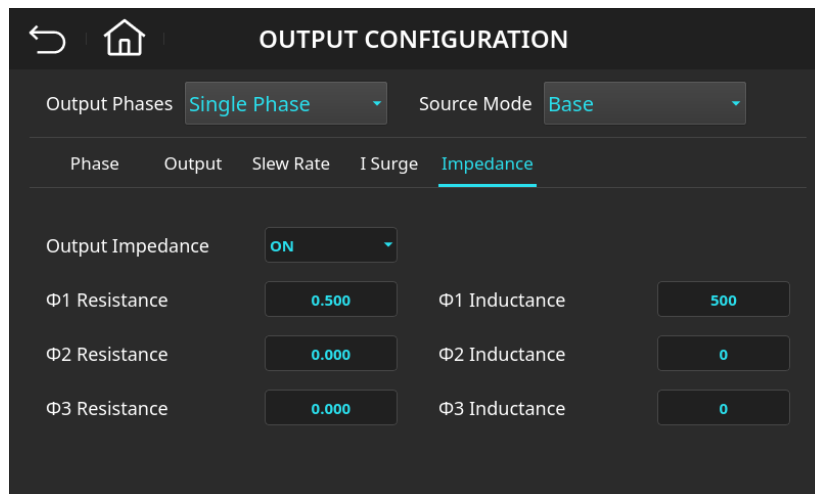

Figure 4-47: Programmable Output Impedance (Impedance) Function Page ($\Phi 1$ R Impedance = 0.5, $\Phi 1$ L Impedance = 500)
5. Enter **5**, **0**, **0** then press the **Enter** key. The value will change to "500", as shown in Figure 4-47.